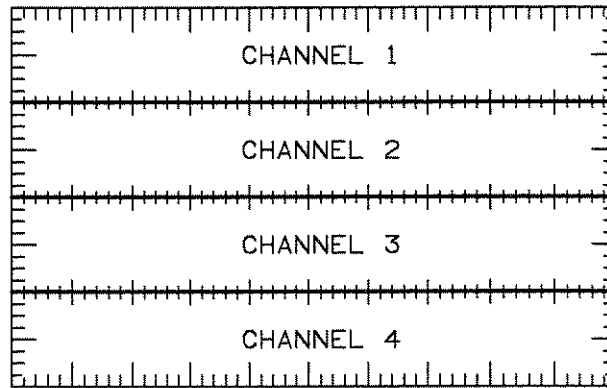

Figure 3-32. Quad Screen Display
- **4:** the display is divided into four equal screens with one waveform displayed in each screen (See figure 3-32).